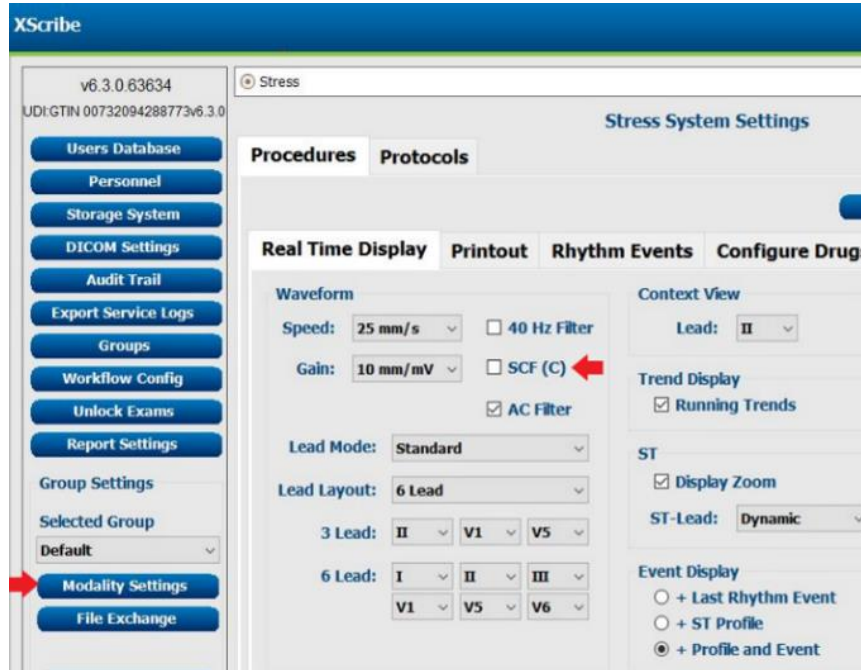

Figure 2 Modality Settings menu
- Navigating to the “Modality Settings” menu (see Figure 2).